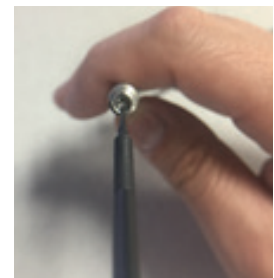

Figure 11.7
3. Gently rub the lens surface to remove debris or dark spots (Figure 11.7).